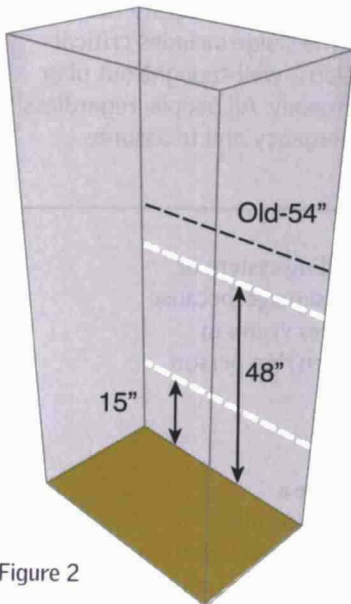
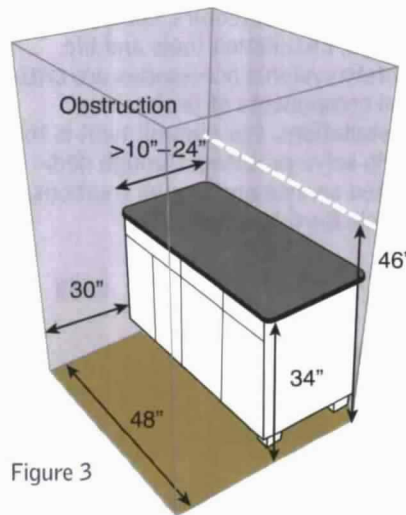

Figure 2
Figure 3
**Figure 2 and 2a: Basic Reach—Unobstructed**
Figures 2 & 2a show the basic location for controls, devices, etc. to be put on the wall surface of the basic box to make them accessible. Figures 3 & 3a detail where and how far outside the basic box you can locate controls, devices, etc. where a side (parallel) approach is used and still have them qualify as accessible.
**Figure 3 and 3a: Basic Reach—Obstructed**